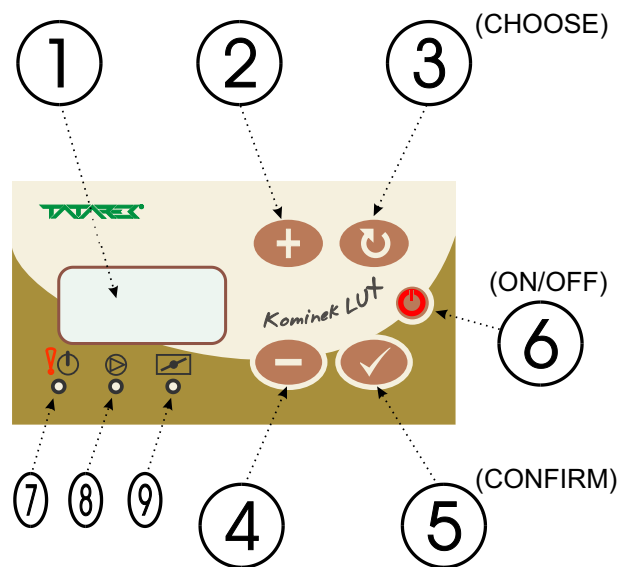

Fig.2 Control panel view
There are elements on the control panel (fig. 2). In the turn-off state only the orange lamp (7) lights indicating the standby mode. The turn-on of the regulator follows by pressing the ON/OFF button (6). In order to turn it off press once more the ON/OFF button (6) and at the same time hold it down for about 1 sec. In case of supply voltage decline the regulator comes back to the state before the decline. The state is presented on the text display (1). The screens inform about the operation of devices, temperature of sensors; they make it possible to change the parameters etc..The change of screen is done by pressing the CHOOSE button (3). If this is the screen that is able to change a parameter, press the CONFIRM button, which causes blinking of the parameter field to be changed. By pressing "+" (2) or "-" (4) one can alter its value.